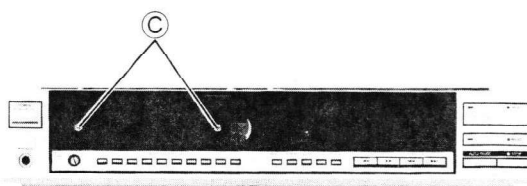

Figure 6
5. Remove two screws (C) ($3\phi \times 6\text{mm}$) securing plate.
6. Close disc holder. (Figure 6)